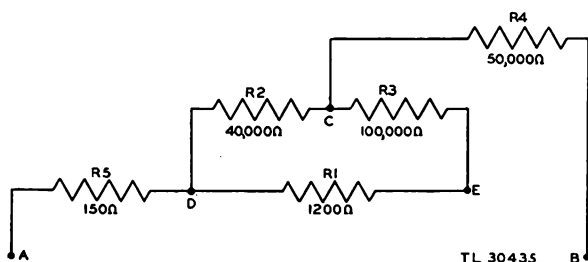

Figure 66. Resistance measurements functional schematic.
(2) **TYPICAL SERIES-PARALLEL CONNECTION.** Figure 66 shows a more complicated series-parallel arrangement. Although the appearance of the circuit is apt to be confusing, determining its resistance is simple. Five reference points, A, B, C, D, and E are shown, and ohmic values of the resistors are designated. *The total resistance between any two points depends entirely upon the type of resistance structure between those two points.* As explained in the following subparagraphs, it is necessary in many instances to reconstruct the circuit diagram of the network in order to simplify its arrangement.
IN FIGURE 66